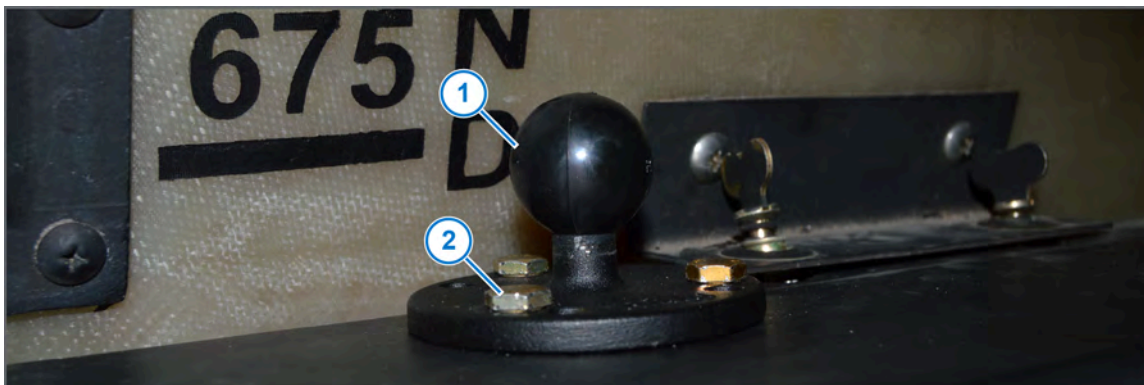

Figure 42: Ball Mount Installation
6. After the desired mounting location is established, attach a ball mount (Figure 42, Item 1) to the aircraft using the supplied 10-32 hardware (Figure 42, Item 2)—10-32 hex bolts, flat washers, and 10-32 stop nuts.
See Figure 42